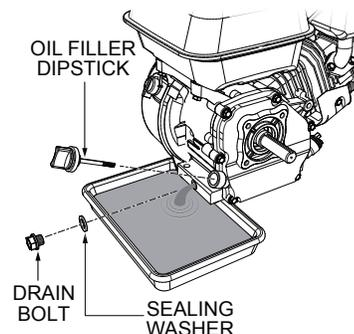

Figure 28. Draining Engine Oil
1. Unscrew the oil filler dipstick (Figure 28) from its holder.
2. Remove the oil drain bolt and sealing washer and allow the oil to drain into a suitable container (Figure 28).